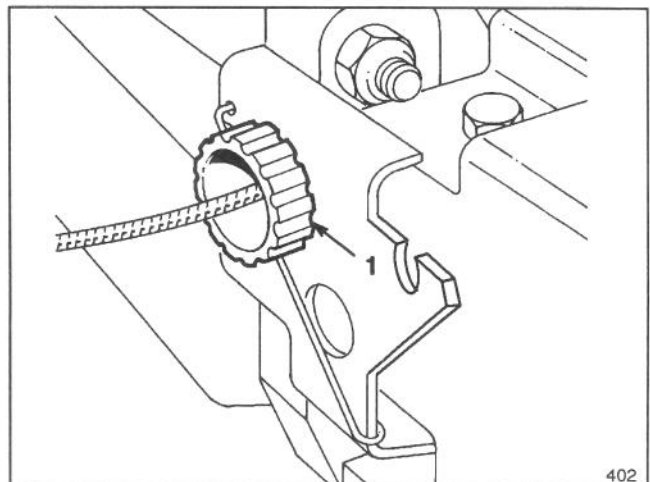

Figure 23
2. ADJUSTMENT (Fig. 23) – Rotate control knob clockwise 1/2 turn if mower does not self-propel. If mower creeps forward, rotate knob 1/2 turn counterclockwise to loosen belt.